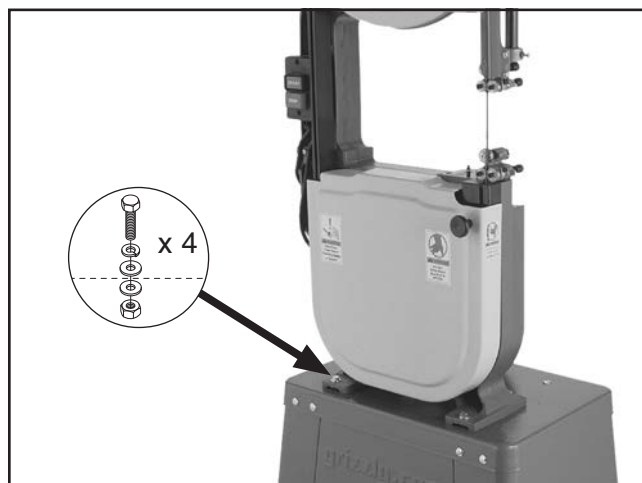

Figure 13. Bandsaw assembly attached to the stand.
8. Secure the bandsaw assembly to the stand with (4) $\frac{5}{16}$ "-18 x 1 $\frac{1}{2}$ " hex bolts, (4) $\frac{5}{16}$ " lock washers, (8) $\frac{5}{16}$ " flat washers, and (4) $\frac{5}{16}$ "-18 hex nuts, as shown in **Figure 13**.